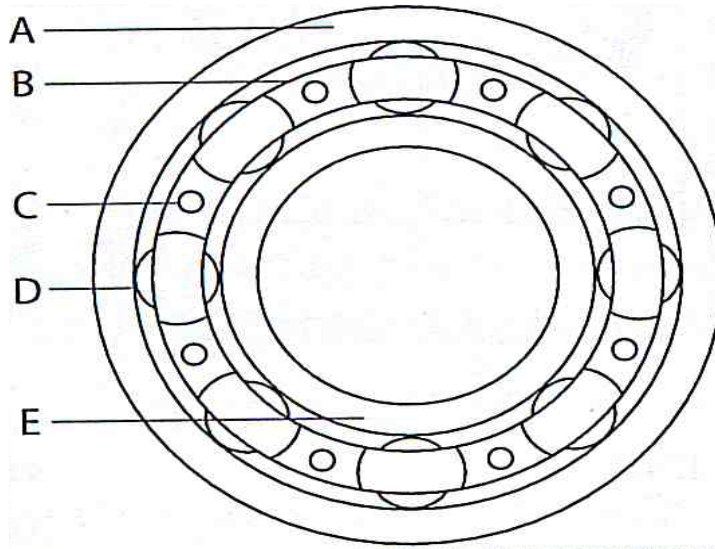

FIGURE 1
1.2 Name the components of the bearing shown below in FIGURE 1 by writing only the correct component next to the letters (A–E) in the ANSWER BOOK.